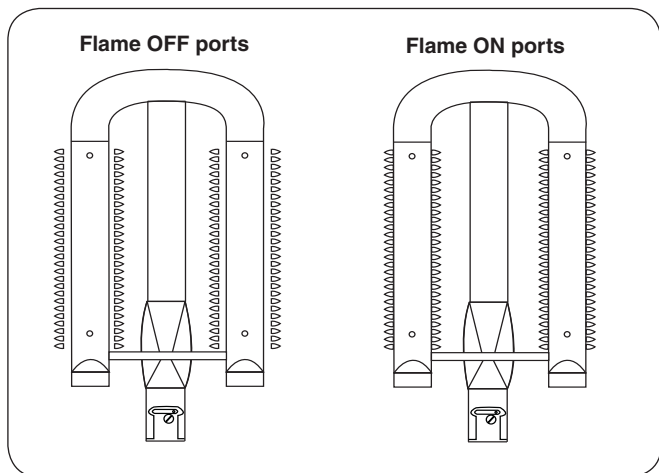

Fig. 36-1 Flame appearance diagram
Flames from a properly adjusted main burner with no wind or breeze present will appear fairly steady, consistent, and mostly blue. If the tip of a flame were to turn orange, it should only do so briefly and then become blue again. The flames will appear to burn while touching the burner ports (see Figure 36-1).
6. Repeat steps 1-5 until the flames appear to touch the burner ports, burning fairly steadily and mostly blue (see Fig. 36-1).